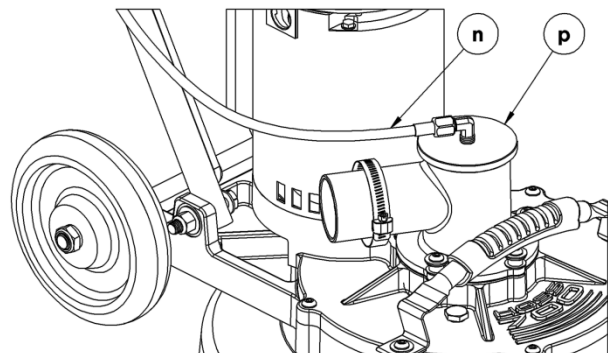

Figure 6.
5. **Attach the Solution Line 1** (Figure 6.)